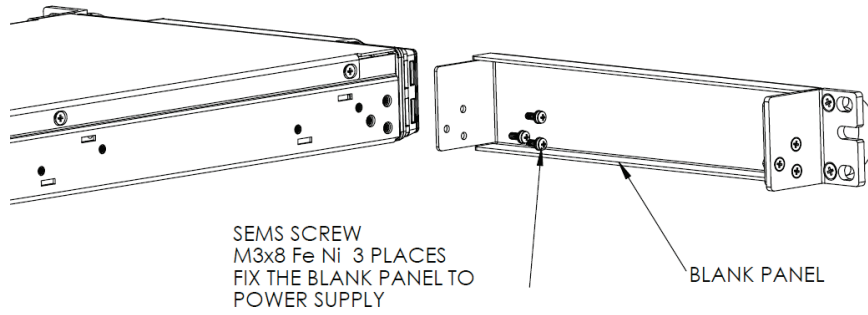

Figure 4-4: Blank Panel Assembly to Power Supply
4. Fix the blank panel to the left side of the power supply as shown in Figure 4-4.